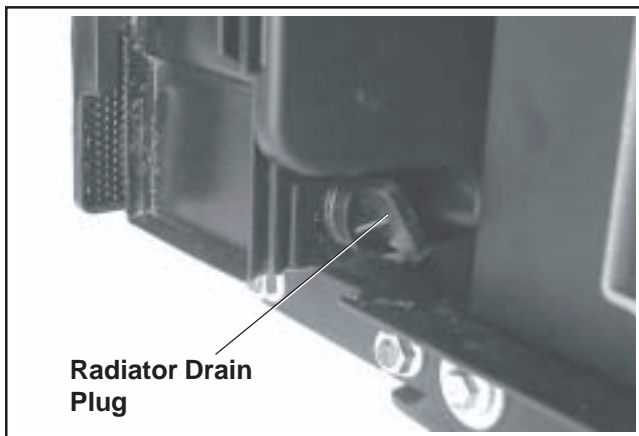

Figure 7-6. Radiator Drain Plug.
3. Loosen the radiator drain plug in the lower left rear corner of the radiator. See Figure 7-6.